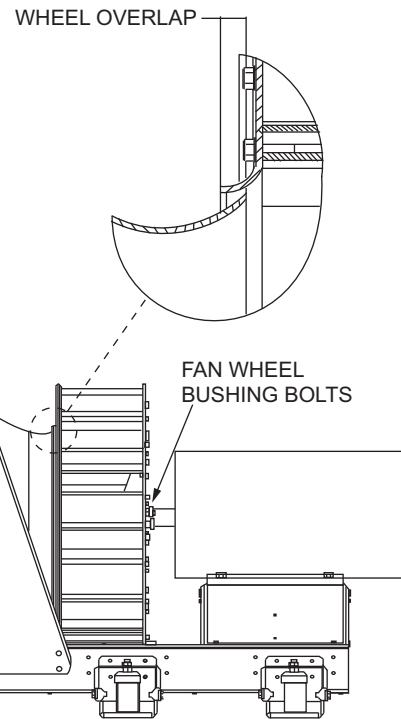

Fig. 157 — Fan Wheel Bushing Location
2. Check tightness of fan wheel bushing bolts (see Fig. 157) per Table 44 below.
4. Verify the fan wheel to inlet cone overlap (see Fig. 157) is within limits per Table 45 below.